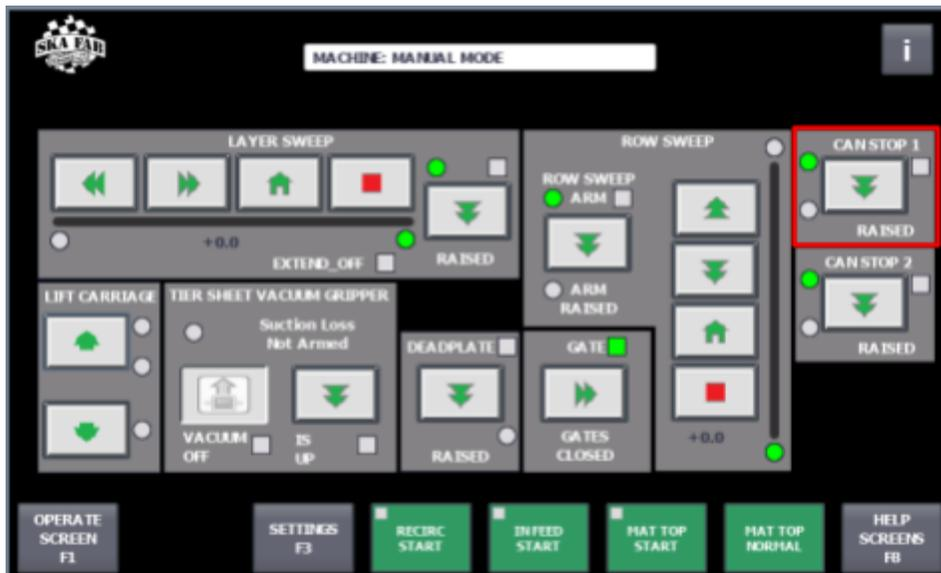

Fig. 35: HMI Screen – Can Stop 1 raised
1. In Manual Mode on the HMI, press the CAN STOP 1 UP/DOWN ARROW button (Fig. 35) to lower Can Stop 1.